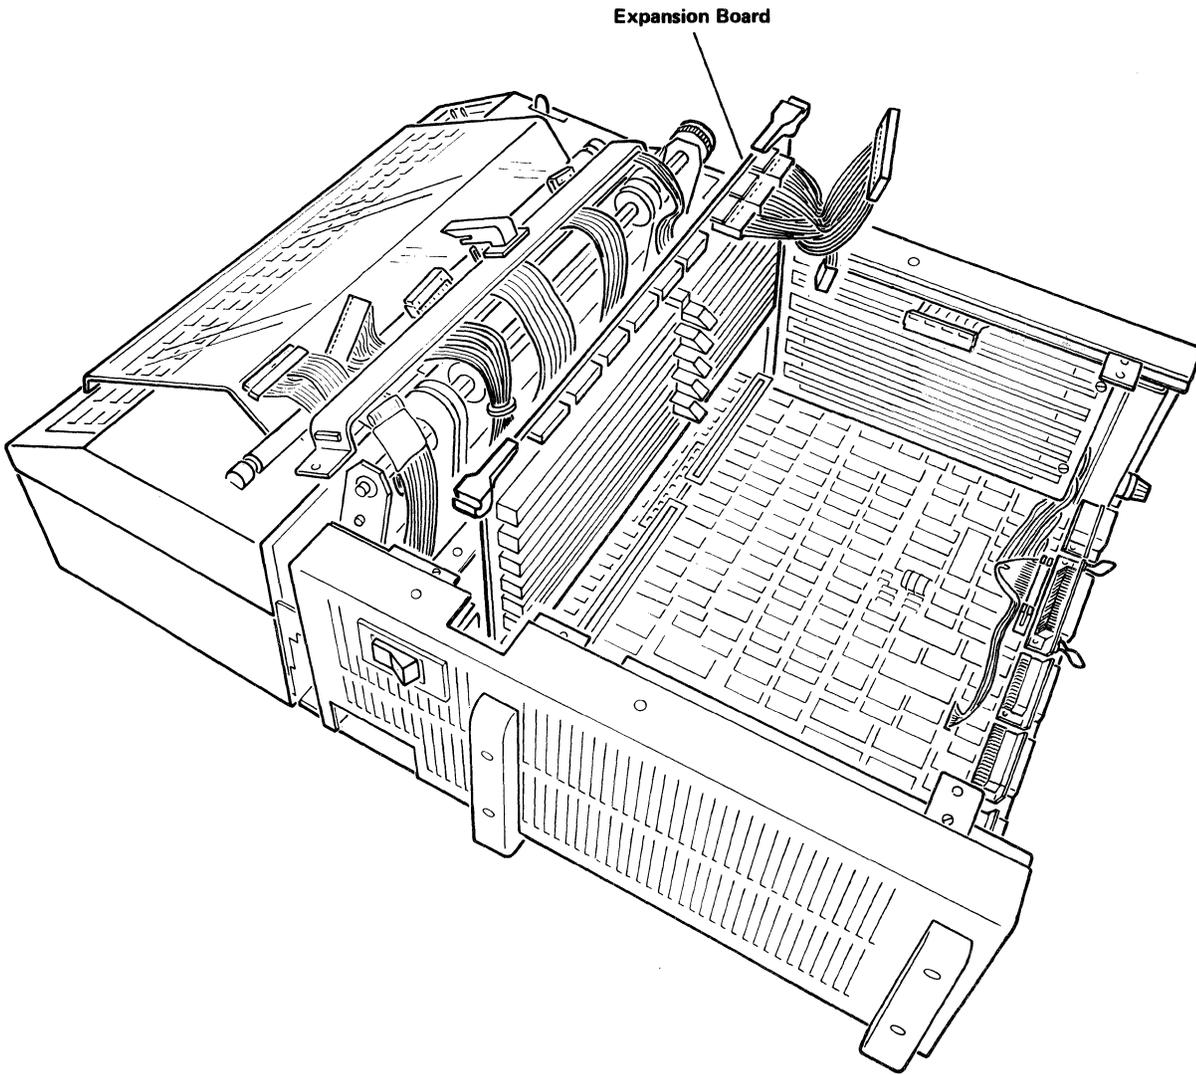

Figure 4-16. Expansion Board.
21. Remove the expansion board using the ejector levers and place it to one side (See Figure 4-16).
3. Slide the expansion board back into position. Be sure that the board is seated into the planar board correctly (See Figure 4-16).